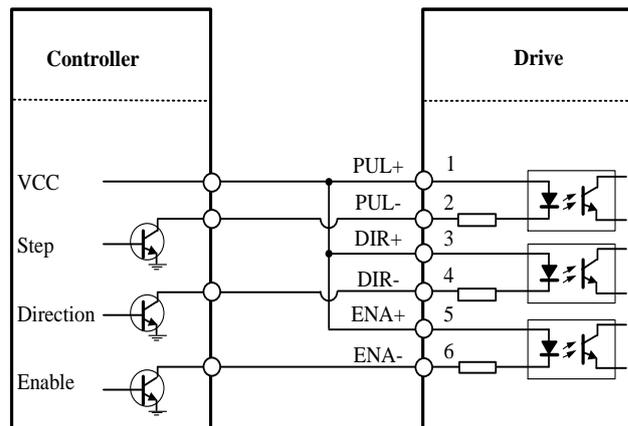

Figure 2 Connections to PNP signals
PUL+ (CW+)	Pulse and Direction Connection: (1) Optically isolated, high level 4.5-5V or 24V, low voltage 0-0.5V (2) Maximum 200 KHz input frequency, 500KHz customized model is available (3) The width of PUL signal is at least 2.5 μ s, duty cycle is recommended 50% (4) Single pulse (step & direction) or double pulse (CW/CCW) is set by DIP Switch SW14 (5) DIR signal requires advance PUL signal minimum 5 μ s in single pulse mode (6) The activated edge of PUL and DIR is set by DIP Switch SW13 (7) The factory setting of control signal voltage is 24V, must need to set S3 (figure 2) if it is 5V